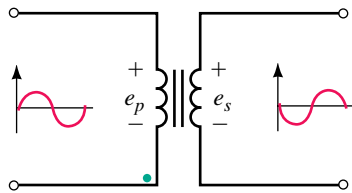

FIGURE 24-17
4. For Figure 24-17, determine the position of the missing dot.